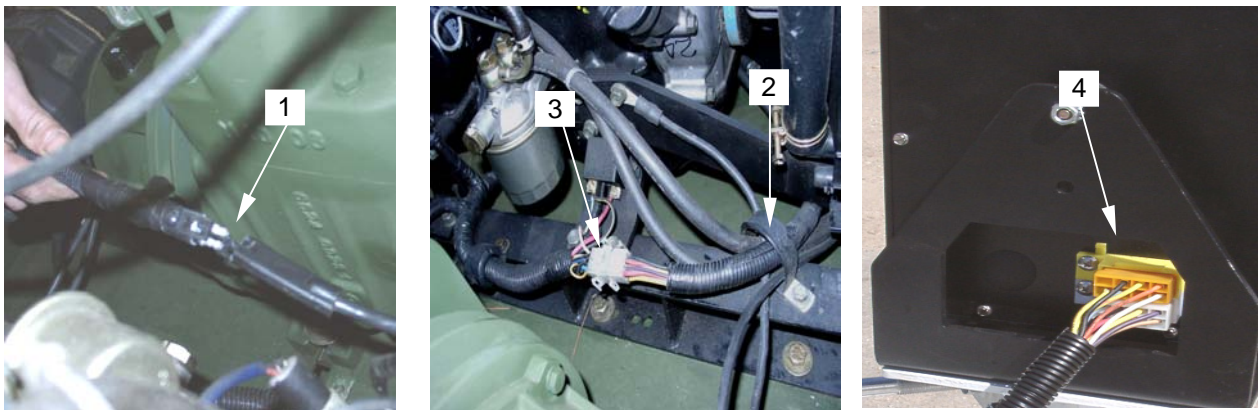

Figure 14. Reconnecting Wire and Lighting Harness
36. Reconnect the lighting harness plug (**figure 14, item 1**).
37. Install wire harness through engine cable retainer (**figure 14, item 2**) and to the connector (**figure 14, item 3**).
38. Reconnect the wire harness (**figure 14, item 4**) onto the control panel.